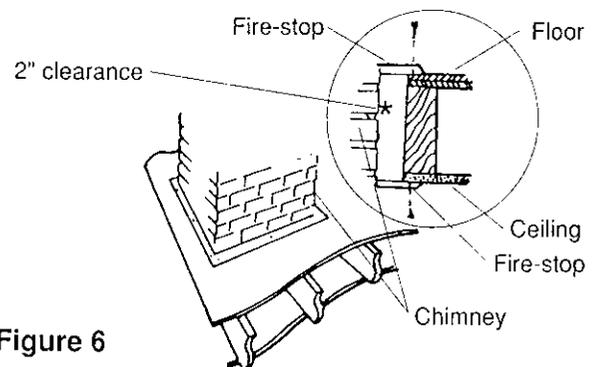

Figure 6
- A chimney inside the house must have at least 2" of clearance to the combustible structure. A chimney outside the house must have at least 1" clearance to the combustible structure. Fire stops must be installed at the spaces where the chimney passes through floors and/or ceilings (Figure 6).